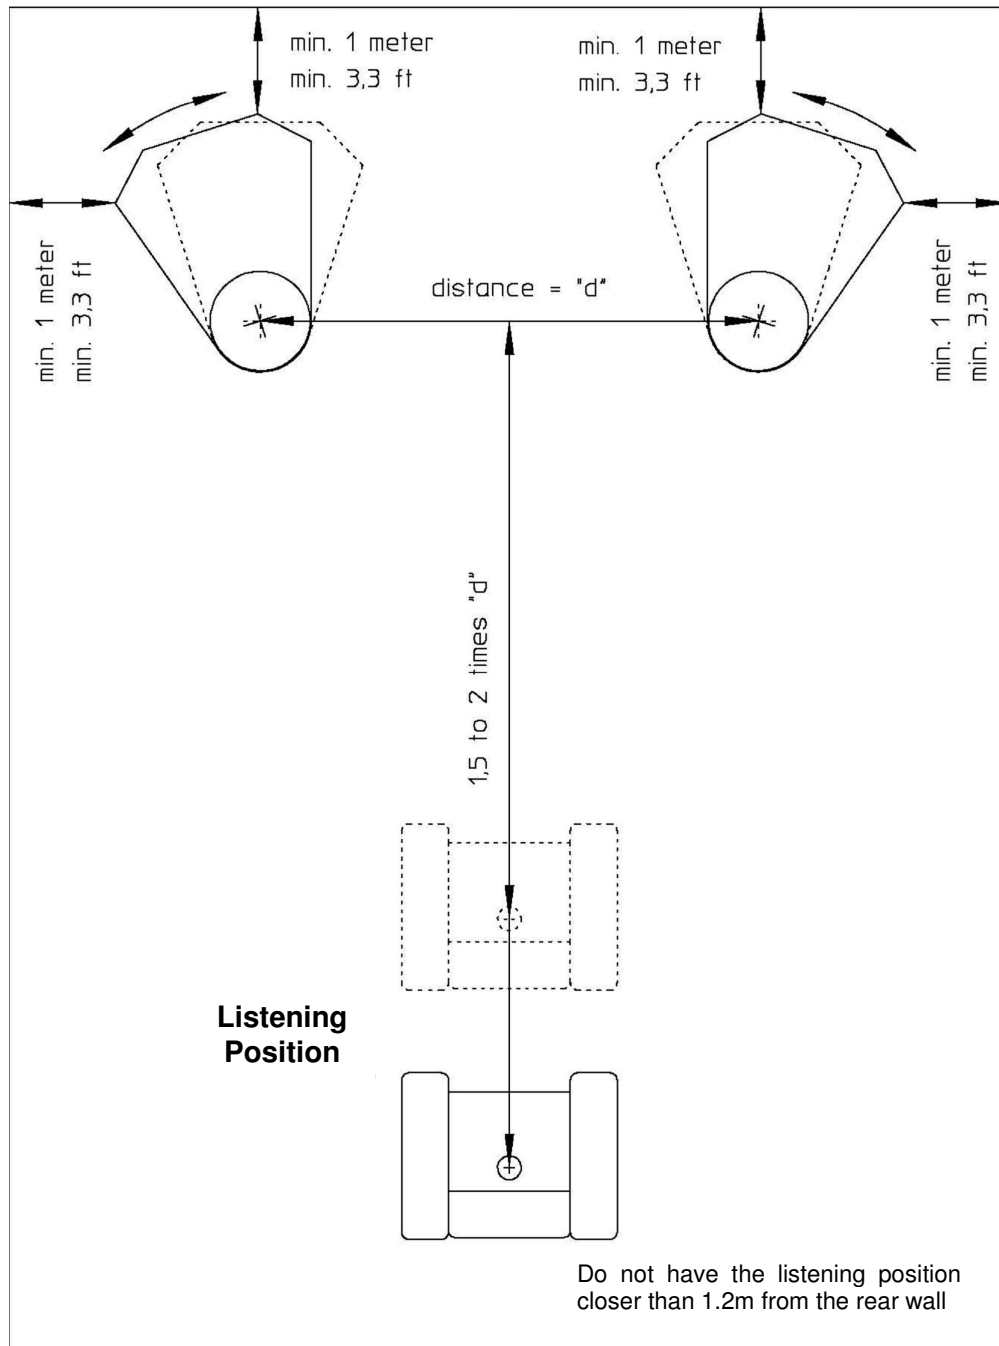

Figure 9. Listening Room Arrangement
1. Place the left loudspeaker bottom plate on the floor in the position where the loudspeaker is to be sited. Please refer to figure 9 for guidance on positioning. Ensure that it is sitting squarely on all its support points and that it is level.
Figure 9 gives a general guide to loudspeaker positioning and the location of the listening position. Note how the recommended listening position varies with the separation between the DDD towers and also how as the listening position is moved away from the loudspeakers, the woofer modules need to be toed in by rotating them towards the adjacent side walls, while keeping the DDD tower centres in the same position.